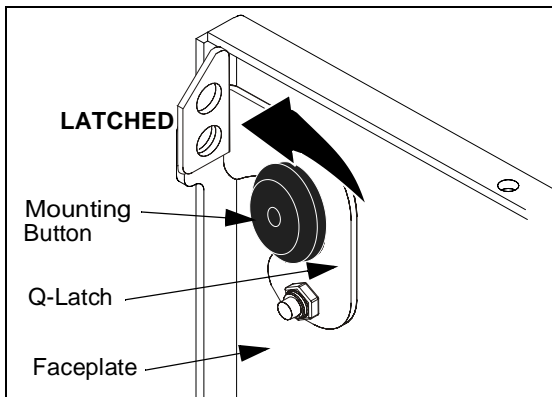

Figure 6: Q-Latch (Latched)
- Secure display by rotating Q-Latch to the fully LATCHED position (See Figure 6). If Q-Latch does not fully engage, ensure mounting buttons are fully seated in teardrop slots.